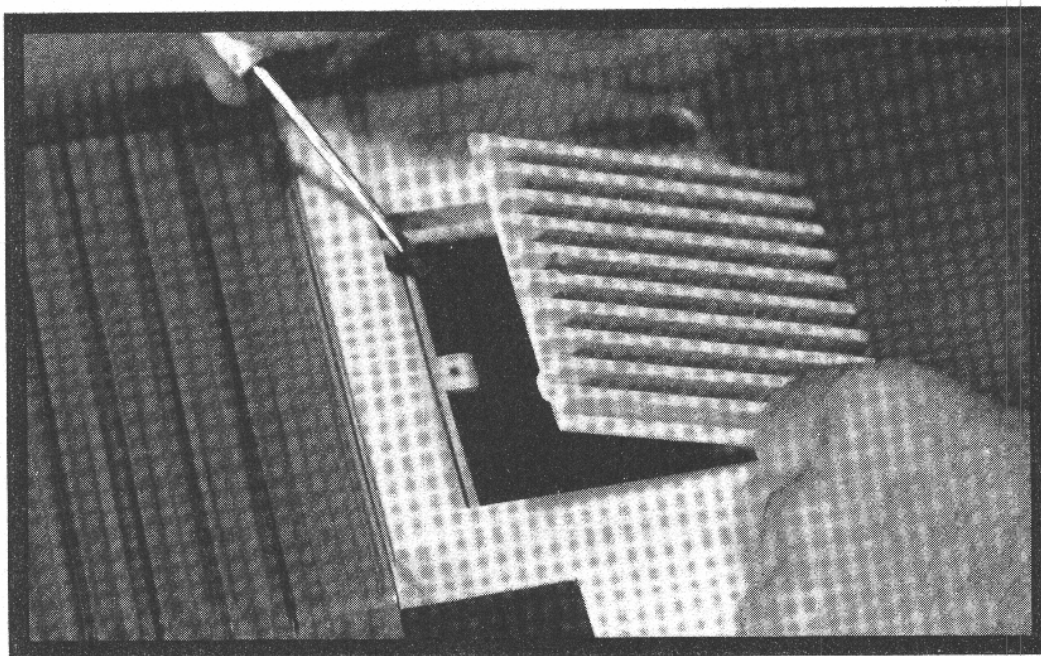

FIGURE 13.6. Removing the vent cover
- Step 2.** Remove the vent cover by pushing down on the top and pulling sideways. By inserting a coin in the edge of the vent and twisting, the vent will come off more easily. Figure 13.6 illustrates the procedure.